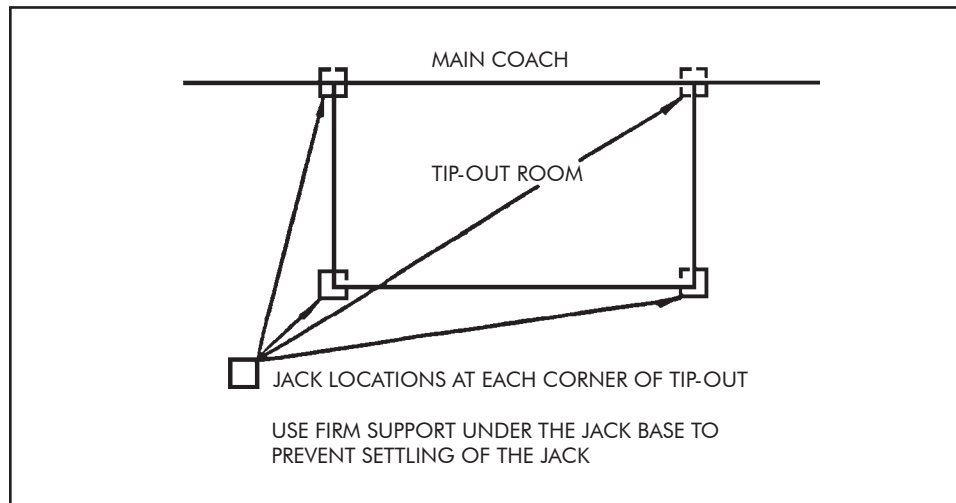

FIGURE 19
2. Position and install 2 leveling jacks with support under the jack bases as shown in Figure 19.